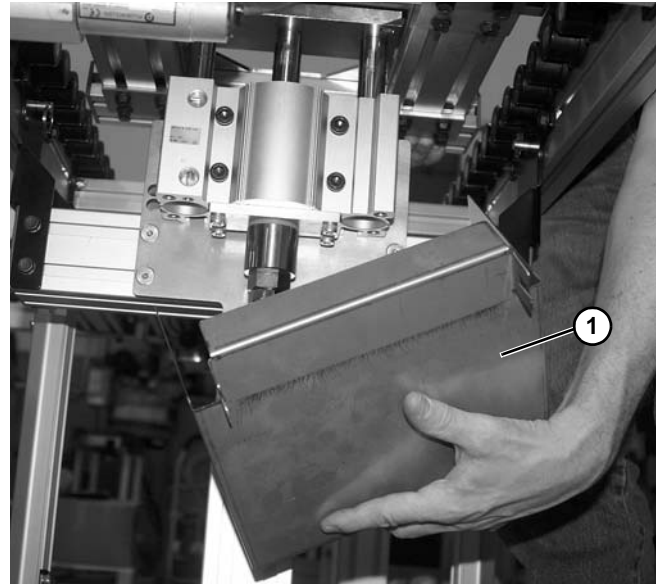

Figure 81
2. Lower cylinder guard (**Figure 81, item 1**) from over cylinder assembly.